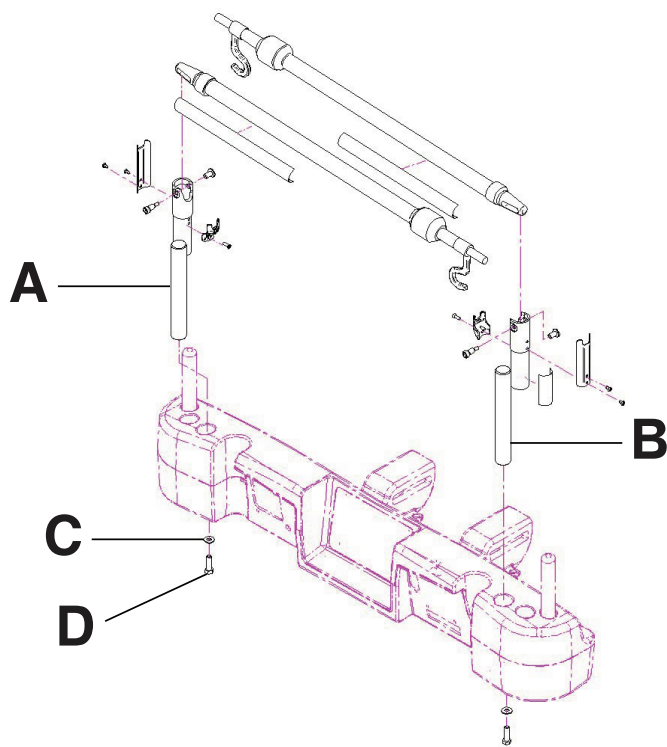

Figure 121: Dual two stage IV pole
1. Using a 3/8 in. drive ratchet and a 1/2 in. socket, install one washer (C) and one bolt (D) to secure the IV pole into the socket at the head end of the product (A) (Figure 121 on page 109).
2. Using a 3/8 in. drive ratchet and a 1/2 in. socket, install one washer (C) and one bolt (D) to secure the IV pole support into the socket at the head end of the product (B) (Figure 121 on page 109).